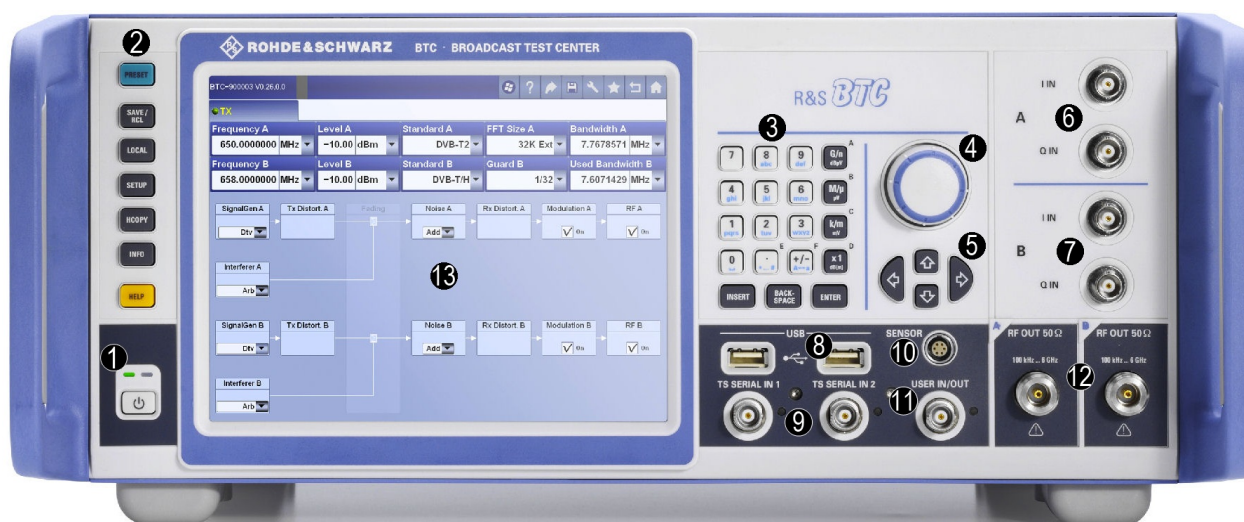

Figure 5-1: Front panel view (example; 2 paths instrument)
See (1) in Figure 5-1.
See (2) in Figure 5-1.
See (5) in Figure 5-1.
See (3) in Figure 5-1.
See (4) in Figure 5-1.
See (13) in Figure 5-1.
See (6/7) in Figure 5-1.
See (8) in Figure 5-1.
See (9) in Figure 5-1.
See (10) in Figure 5-1.
See (11) in Figure 5-1.
See (12) in Figure 5-1.